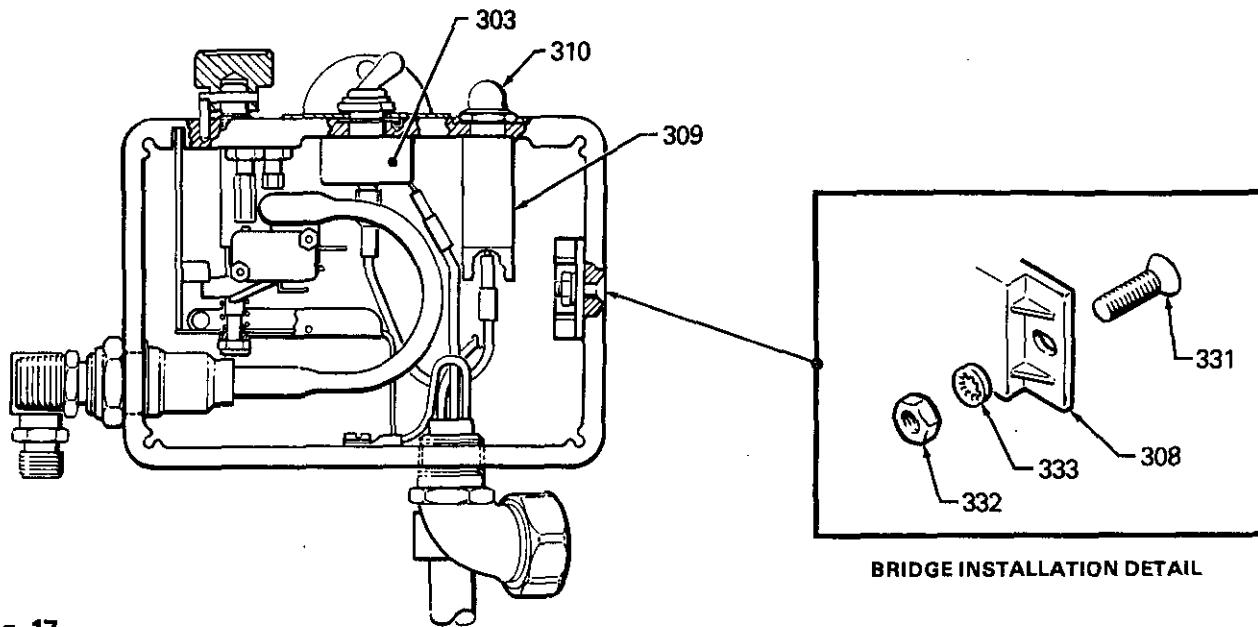

Fig 17
## BRIDGE RECTIFIER REPLACEMENT (Refer to Fig 17)
2. Disconnect all wires from the bridge (308) at the appropriate terminals.
3. Outside the pressure control box on the right side are two screws (331). *Loosen*, but don't remove the screw near the back of the control box. Then loosen and remove the front screw. Slide the bridge out.
4. Slide the new bridge (308) into the box being sure the lockwasher (333) on the rear screw (331) is *IN FRONT* of the bridge. Refer to the Detail in Fig 17.
5. Install the front screw, lockwasher and nut (332).
The lockwashers (333) must be in front of the bridge to avoid overheating which will result in bridge failure. Refer to the Detail in Fig 17.
## CIRCUIT BREAKER REPLACEMENT (See Fig 17)